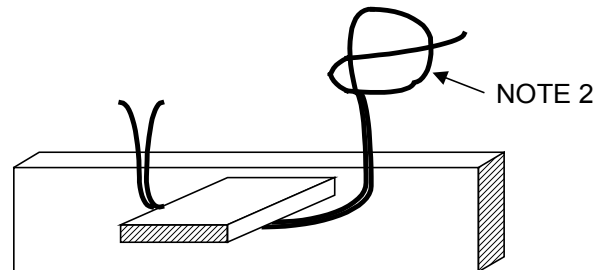

FIGURE 14b
2. DOUBLE LOOP END BACK ON ITSELF (FIGURE 14b).